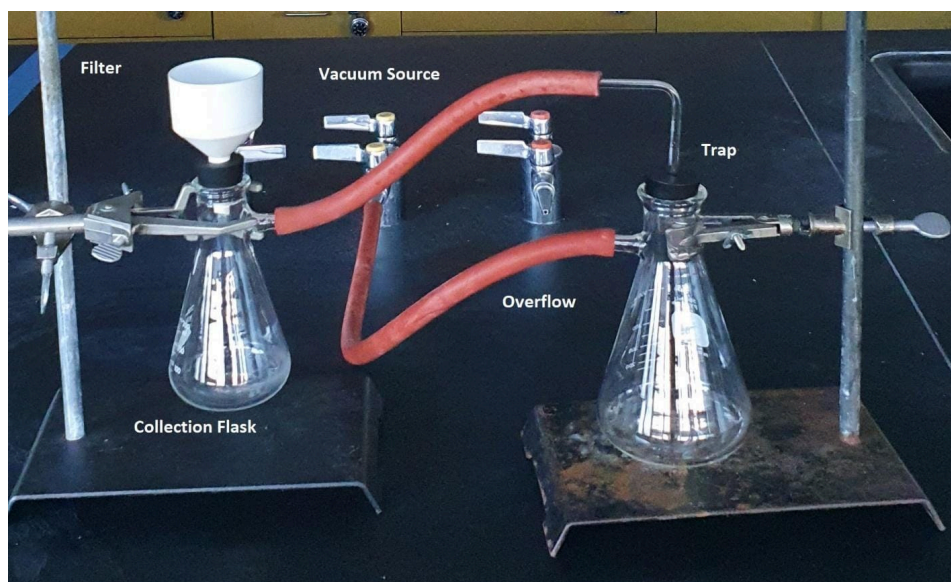

Figure 8.1.1: Vacuum filtration apparatus setup.
16. Assemble the vacuum filtration apparatus consisting of a Büchner funnel, rubber adapter, filter flask, safety trap flask, and heavy-walled vacuum hose (Figure 8.1.1).